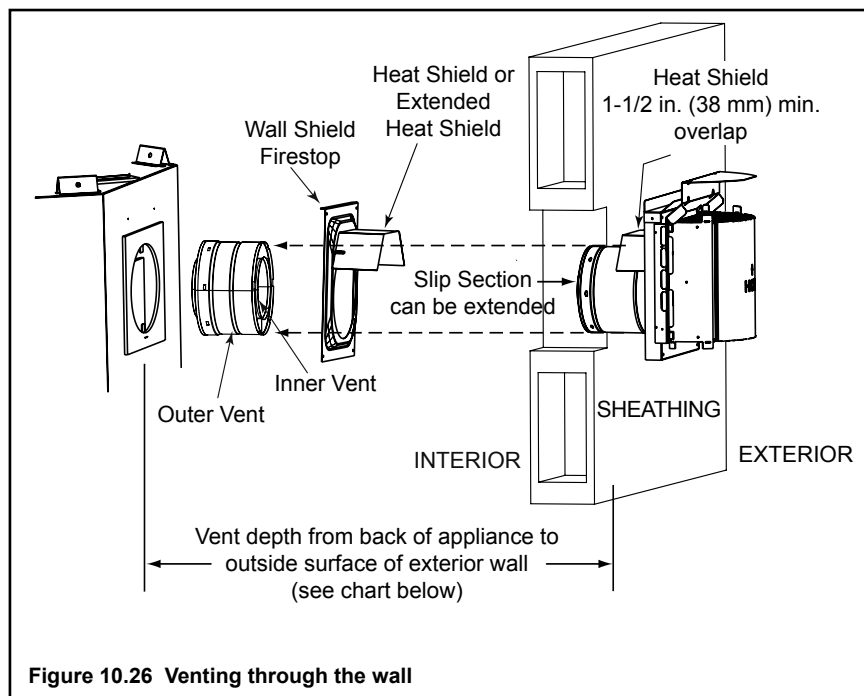

Figure 10.26 Venting through the wall
There are two sections of the heat shield. One section is factory-attached to the wall shield firestop. The other section is factory-attached to the cap. See Figure 10.26.
- **DO NOT** remove the heat shields attached to the wall shield firestop and the horizontal termination cap (shown in Figure 10.26).